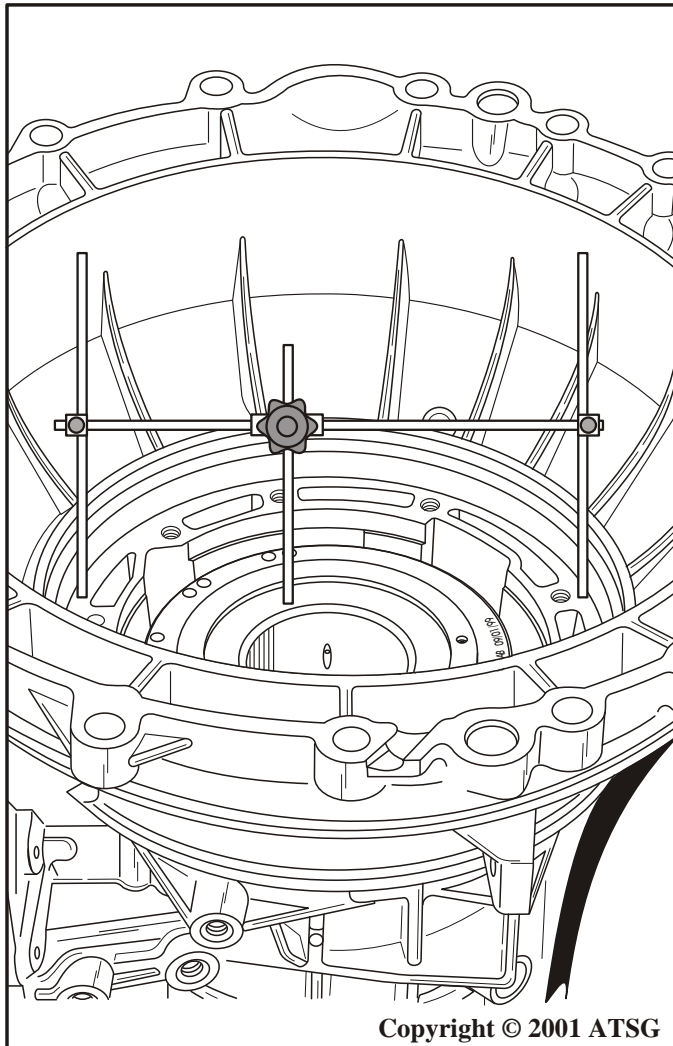

Figure 166
52. Install "H" gauge onto case pump surface and move center rod down to surface on the coast clutch where selective thrust washer rides, as shown in Figure 166.